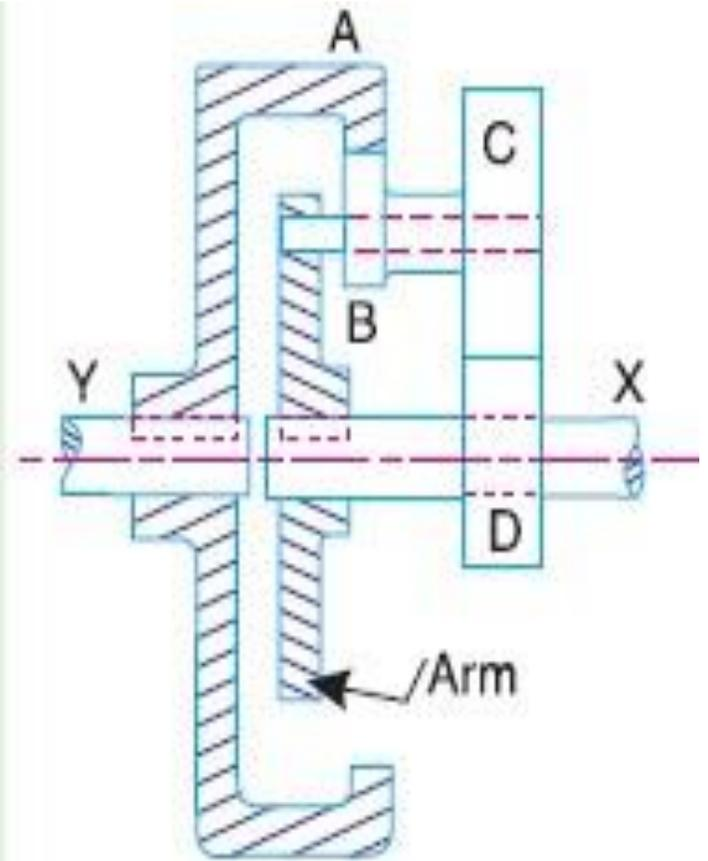

Fig. 13.29
**Example 13.22.** An over drive for a vehicle consists of an epicyclic gear train, as shown in Fig. 13.29, with compound planets B-C. B has 15 teeth and meshes with an annulus A which has 60 teeth. C has 20 teeth and meshes with the sunwheel D which is fixed. The annulus is keyed to the propeller shaft Y which rotates at  $740 \text{ rad/s}$ . The spider which carries the pins upon which the planets revolve, is driven directly from main gear box by shaft X, this shaft being relatively free to rotate with respect to wheel D. Find the speed of shaft X, when all the teeth have the same module.